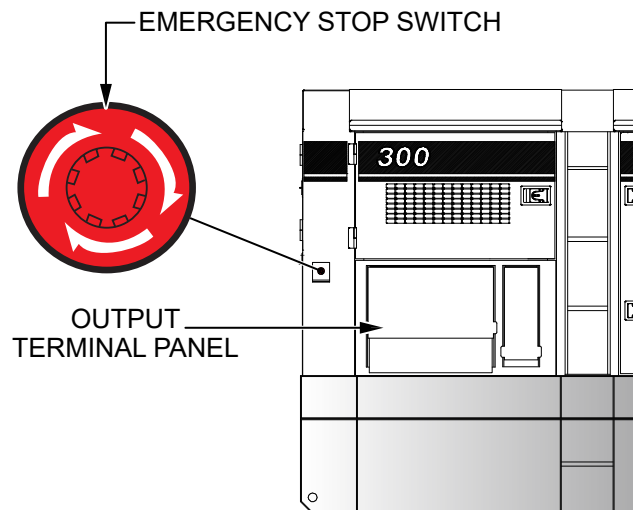

Figure 51. Emergency Stop Switch
1. To stop the engine in the event of an emergency, push the **Emergency Stop switch** (Figure 51). This switch is located on the side of the generator next to the output terminal panel.